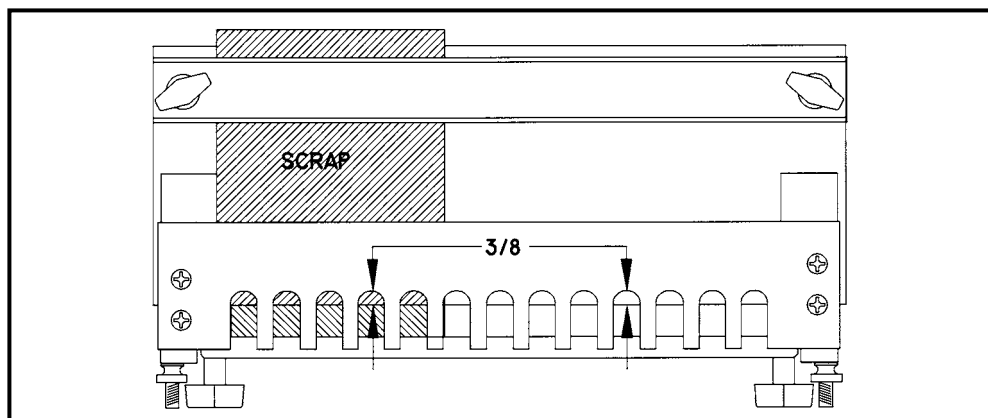

Fig. 19
3. Place the box joint templet on top of the scrap material and adjust so there is about 3/8" (Fig. 19) from back of templet slot to edge of scrap material at both ends of templet.